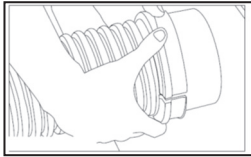

Figure 6
**Step #6 (See Figure 6 and Figure 6A)**